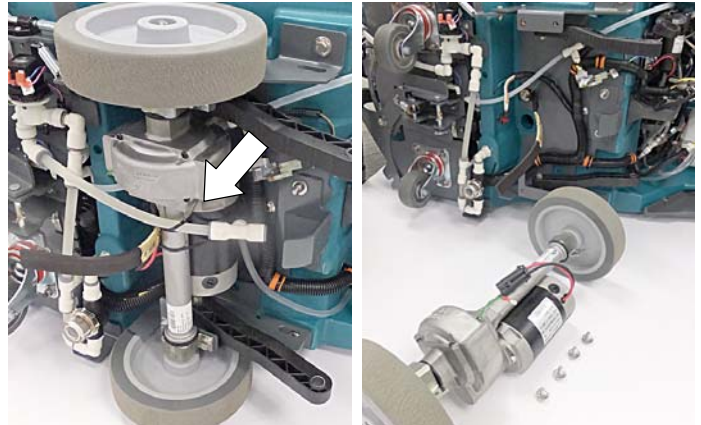

Fig. 3
3. Cut cable-tie, disconnect solution hose and unplug the transaxle harness connector. Carefully remove the transaxle from machine (Figure 3)